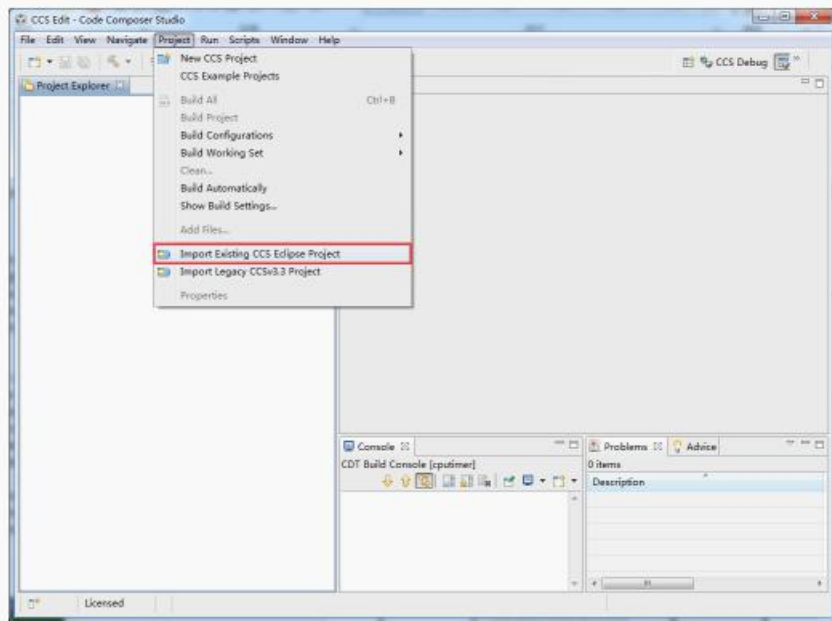

图1-10
- 3) 如下图1-10所示, 点击project > Import Existing CCS Eclipse Projects > Browse